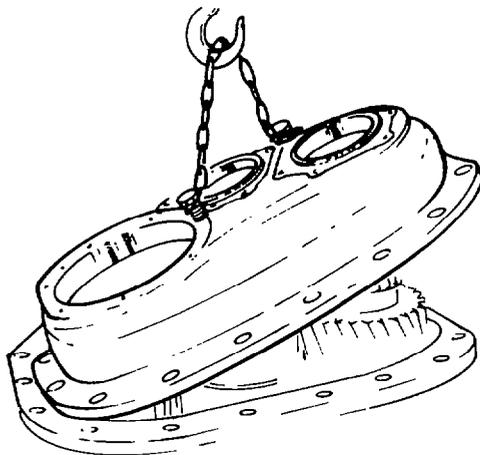

Fig. 253 — Installing End-Plate
- p. Install a new rear end-plate to transfer case gasket, then with suitable lifting equipment, install the end-plate (see fig. 253). Install the retaining bolts and torque the bolts to 129 – 170 Nm (95 – 125 lb.ft) and the nuts to 75 – 100 Nm (55 – 75 lb.ft).